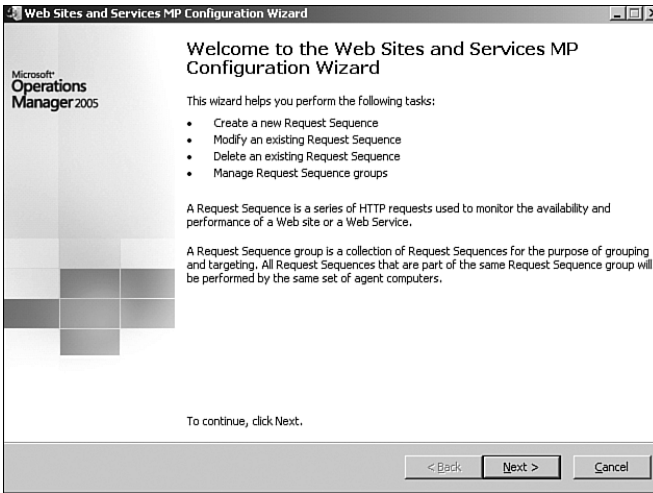

FIGURE 10.17 Starting the Web Sites and Services Wizard.
**Creating a Request Sequence** The Web Sites and Services MP Configuration Wizard creates an entry on the Start menu within the Microsoft Operations Manager 2005 folder. To create a request sequence we run the wizard, shown in Figure 10.17.